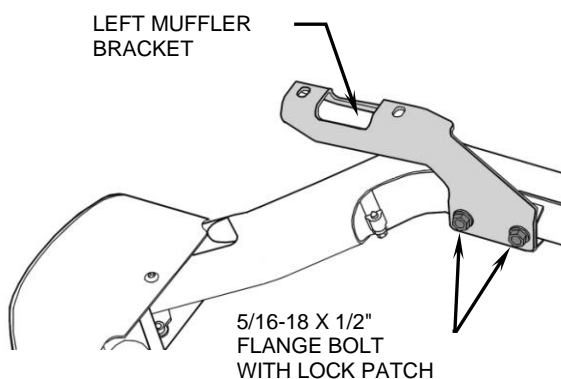

FIGURE 2
5. Install left powdercoated mount bracket to left muffler body with supplied (2), 5/16 x 1/2" Flange bolts. Lightly snug bolts at this time to allow alignment later, see Figure 2.